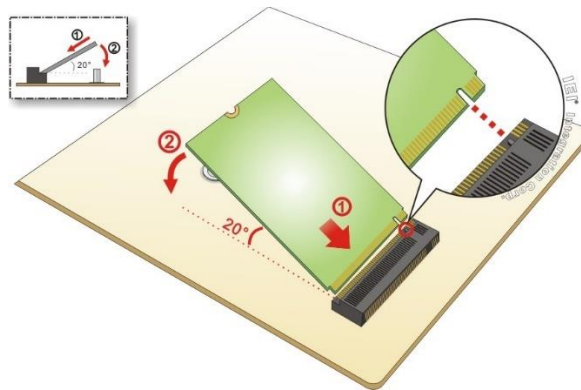

Figure 4-1: Inserting The M.2 Module Into The Slot At An Angle
Step 3: Line up the notch on the module with the notch on the slot. Slide the M.2 module into the socket at an angle of about 20° (**Figure 4-1**).